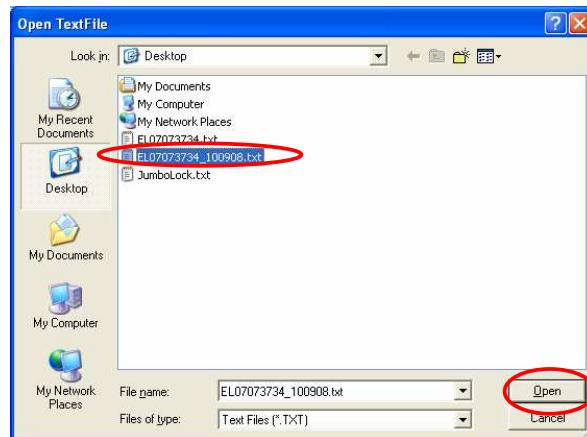
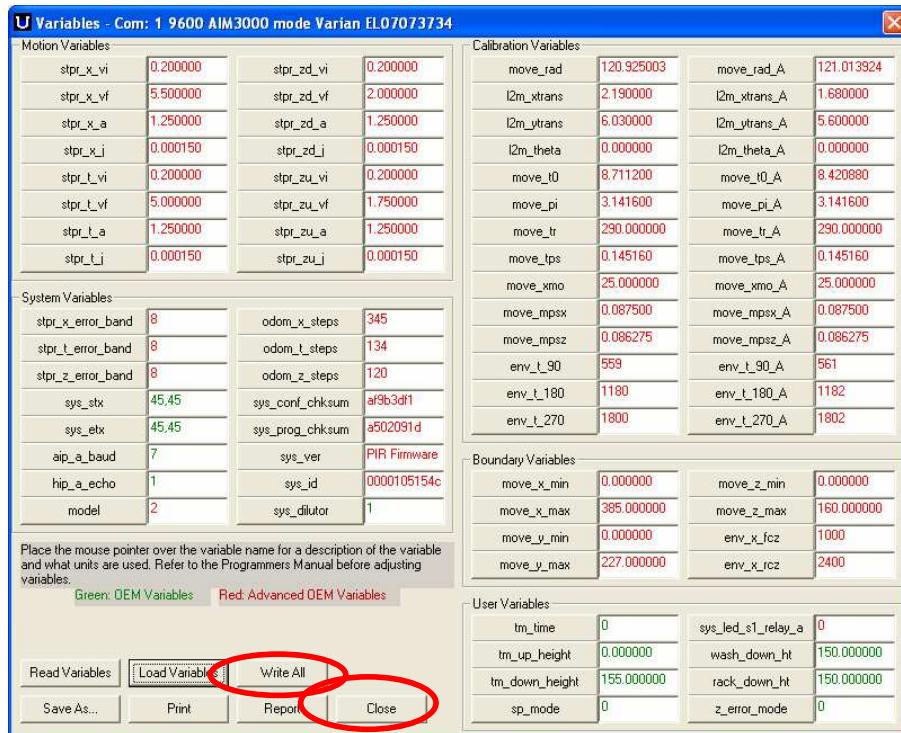

Figure 5: Calibration File Selection
Figure 6: Writing the Calibration to the Firmware
- Click the *Load Variables* button (Figure 4), and then select the txt file that has the calibration coefficients that you want to load up (Figure 5). It is a good idea to make the variables file name one that reflects the serial number of the Fraction Collector. If you have multiple files, then add a date stamp to your file name to ensure that you can distinguish them from each other.
- Once you have selected the desired file to upload and pressed the *Open* (Figure 5). You will then need to select the *Write All* (Figure 6) option to write the variable to the firmware. You can then *close* the Variables page.